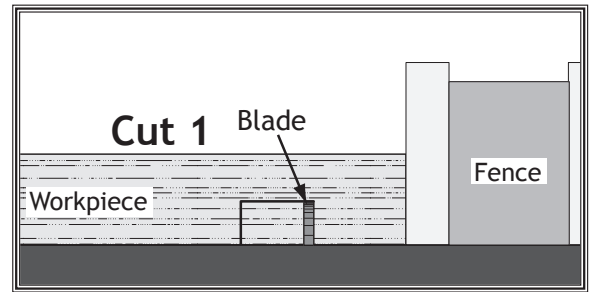

Figure 52. First cut when using a single blade for making a dado.
5. Align the blade to cut one of the dado sides, as shown in **Figure 52**.